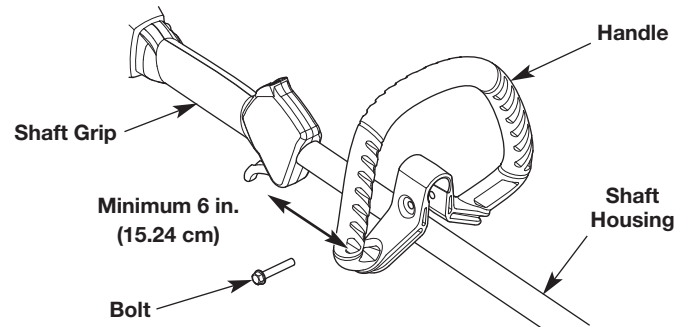

Fig. 2
1. Push the handle down onto the shaft housing (Fig. 2). The bolt hole in the handle should be to the right.
2. Insert the bolt into the bolt hole and push it through (Fig. 2). Tighten the bolt with a 3/8" socket, but do not tighten the bolt completely.
3. While holding the unit in the operating position (Fig. 12), move the handle to the location that provides the best grip. Place it a minimum of 6 inches (15.24 cm) from the end of the shaft grip (Fig. 2).
1. Loosen the bolt with a 3/8" socket (Fig. 2).
2. While holding the unit in the operating position (Fig. 12), move the handle to the location that provides the best grip. Place it a minimum of 6 inches (15.24 cm) from the end of the shaft grip (Fig. 2).